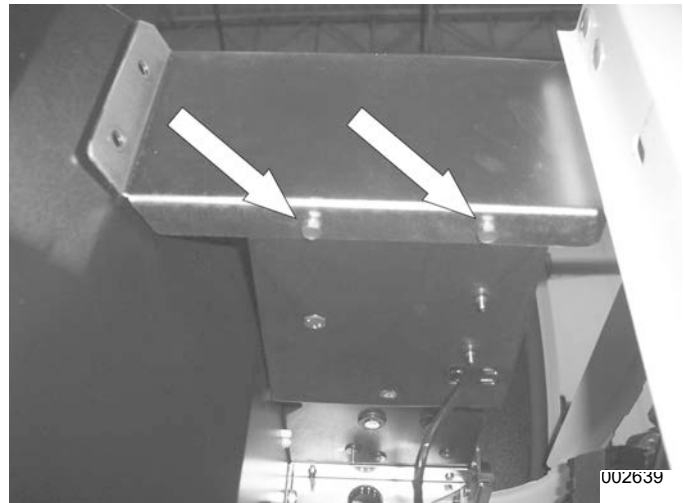

Figure 4-7.
6. **Remove Engine Intake Baffle:** See Figure 4-7. Use a 10 mm socket to remove the two bolts from the engine intake baffle. Pull baffle out carefully, there are tabs holding the backside of the baffle to the divider panel.
7. **Loosen Side Panel:** See Figure 4-7. Using a 10 mm socket remove the two bolts from the base of the enclosure side panel.
8. **Unbolt Enclosure Side Panel Mounting Bracket:** See Figure 4-7. Using a 10 mm socket remove the two bolts from the enclosure side panel mounting bracket.